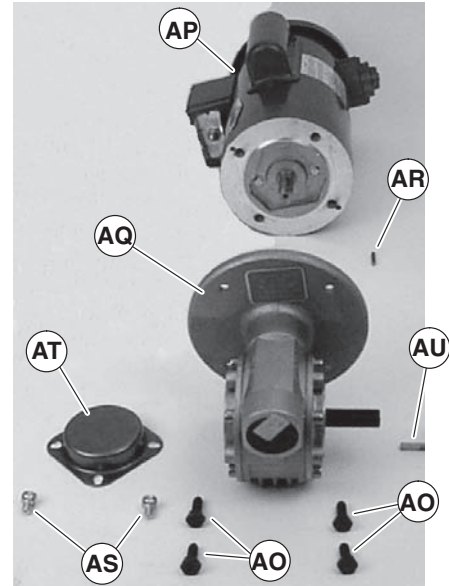

Figure 28
8. Remove four screws (Figure 28, item AO). Detach motor (AP) from gear reducer (AQ). Retain motor output shaft key (AR).
14. With key (Figure 28, item AR) in keyway, slide motor (AP) and gear reducer (AQ) together. Install screws (AO) and tighten.